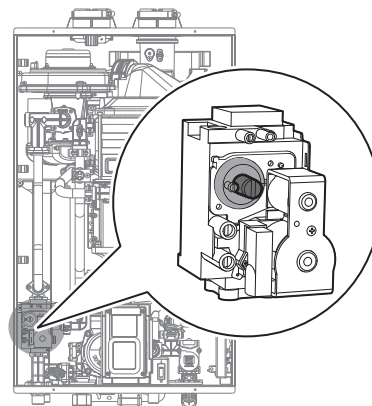

Figure 8. Set Screw Location
- Fully open several hot water fixtures and set the water heater to operate at 1-stage MIN mode (refer to page 45). Measure the CO2 value at low fire. If the CO2 value is not within 0.5% of the value listed in Table 2, the gas valve set screw will need to be adjusted. If adjustment is necessary, locate the set screw as shown in Figure 8. Using a  $\frac{5}{32}$  in or 4 mm Allen wrench, turn the set screw no more than  $\frac{1}{4}$  turn clockwise to raise or counterclockwise to lower the CO2 value.